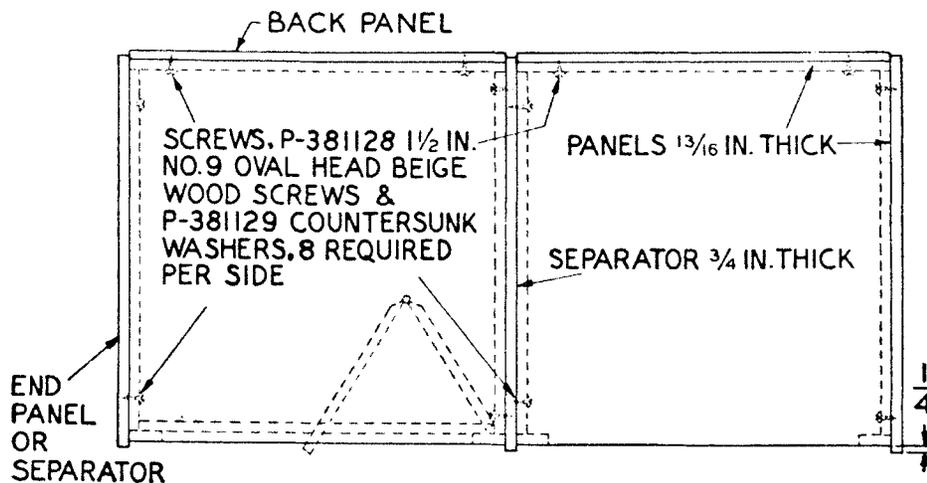

Fig. 1—Typical Layout
4.03 When assembled, the sides of the booth units should make contact with the separators or panels along their entire height. Assemble booths in accordance with the layout shown in Fig. 1.